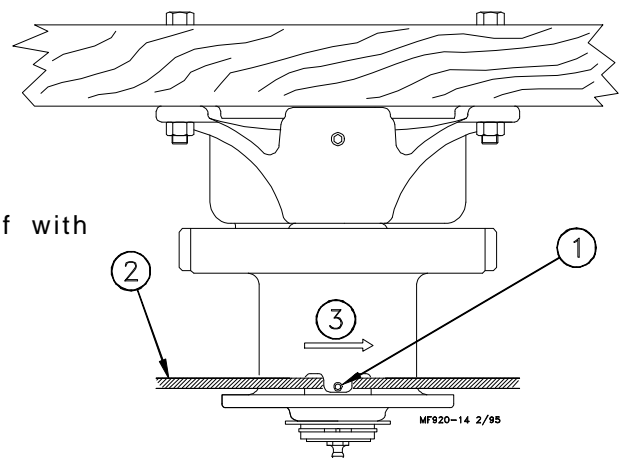

Figure 39. (End View)
4. Wrap the cable through the Winch Drum Relief located near the bottom of the drum. Tighten the set screw to anchor the cable to the drum. See **Figure 39**.